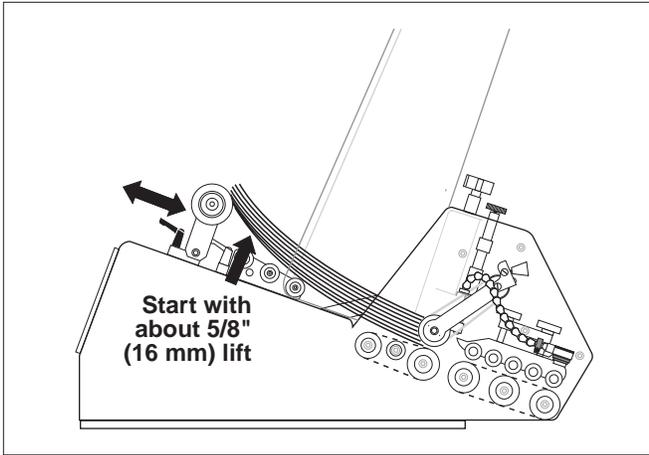
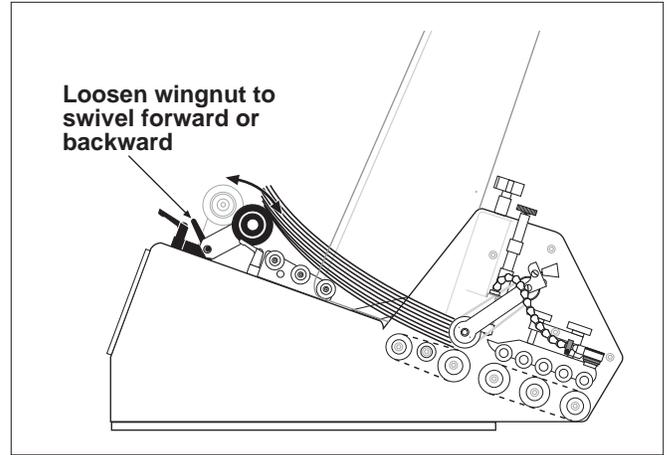

Figure 13. Adjusting Back Wedge for Proper Lift
Figure 14. Adjusting Roller Position
4. Move the back wedge forwards and backwards until the bottom sheet is not touching the table top (Figure 13). A good starting point is to measure about 5/8 in. (16 mm) from the bottom sheet to front edge of table top. Then as you test, you can “fine tune” from this point. You can also fine-tune back wedge location by loosening the roller swivel wing-nut to pivot the rollers back and forth (Figure 14).